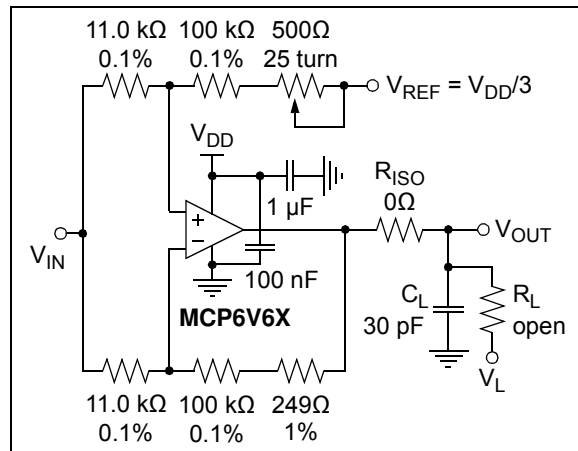

FIGURE 1-6: Test Circuit for Dynamic Input Behavior.
- Note 1:** These parameters were characterized using the circuit in Figure 1-6. In Figures 2-40 and 2-41, there is an IMD tone at DC, a residual tone at 1 kHz and other IMD tones and clock tones. IMD is Referred to Input (RTI).
The circuit in Figure 1-6 tests the input's dynamic behavior (i.e., IMD, t_{STR} , t_{STL} and t_{ODR}). The potentiometer balances the resistor network (V_{OUT} should equal V_{REF} at DC). The op amp's Common Mode Input Voltage is $V_{CM} = V_{IN}/2$. The error at the input (V_{ERR}) appears at V_{OUT} with a noise gain of 10 V/V.